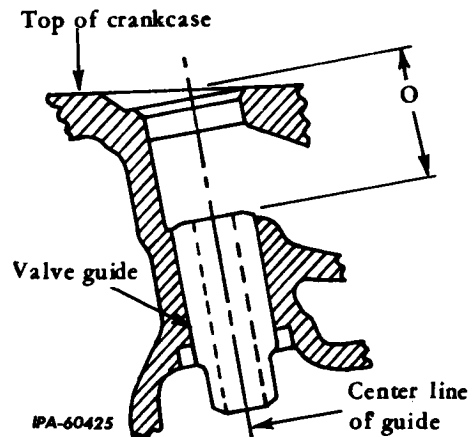

Fig. 29 - Proper Location of Valve Guide in the Crankcase (1 and 60 Series).
4. Check the seat concentricity, roundness and valve face contact using Prussian blue. Spread an extremely thin film of this blue on the valve face and insert the valve into its guide. With pressure on the exact center of the valve head, make a quarter turn rotation in the seat. Remove the valve and inspect the impression made upon the seat by the transfer of blueing, and upon the valve face by the removal of blueing. Check several times to guarantee that no error was made. If a full seat-width contact around the entire circle of seated valve is not shown, the angles do not match. It will then be necessary to redress the valve seat grinding stones, changing the angle sufficiently to correct the error. The correction should be made on the valve seat, and not on the valve. Refer to Valve Dimensional Chart and Fig. 29 and 30.
**60 SERIES ONLY:** Distance from top surface of crankcase to head end of valve guide measured on centerline (Refer to Fig. 29).